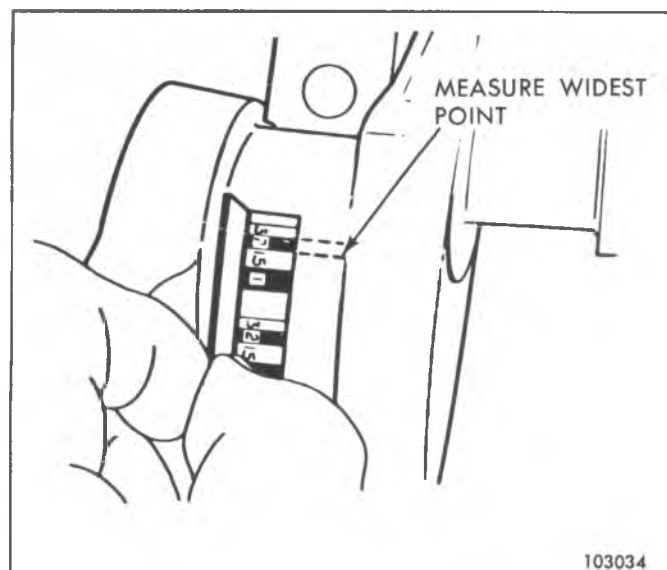

Fig. 6A7-34--Measuring Gaging Plastic
- Measure all connecting rod side clearances (see specifications) between connecting rod caps (Fig. 6A7-31).